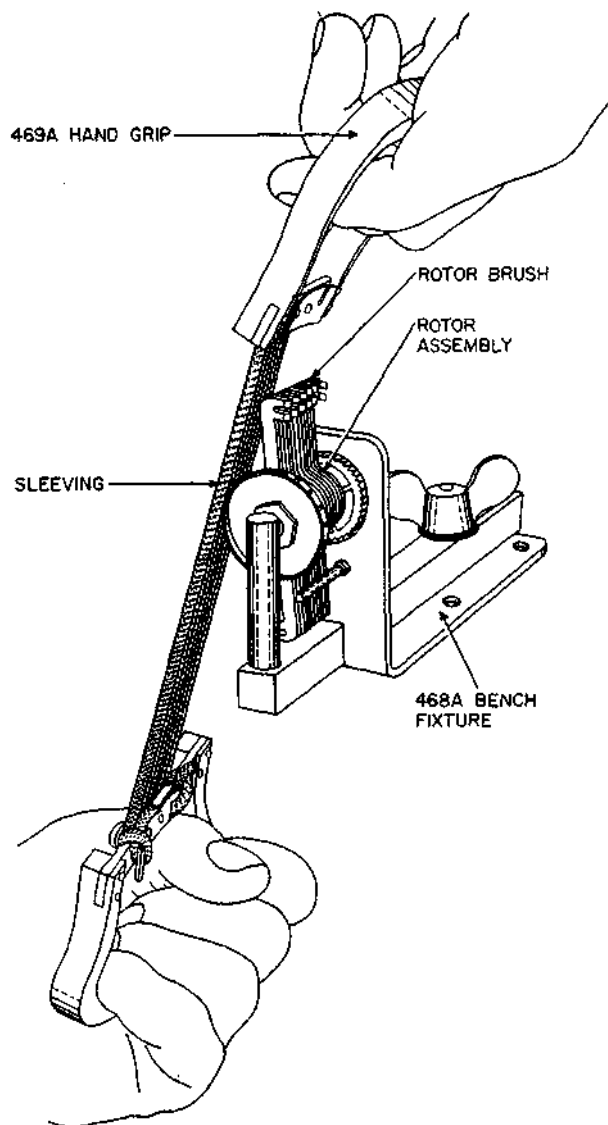

Fig. 10—Method of Inserting Sleevings Between Brushes of Rotor Assembly
3.24 Abrasive Cleaning: Load the 469A hand grips with No. 32 aloxite sleeving. Hold the right hand grip above and to one side of the other hand grip so that the strings are at an angle of approximately 15 degrees to the brushes, as shown in Fig. 10. After entering each string into its proper brush, pass it through the brush tips with a slight downward pressure and a pull to the right. Clean the contact surfaces by forcing the grips alternately up and down.
in Fig. 10. After entering each string into its proper brush, pass it through the brush tips with a slight downward pressure and a pull to the right. Treat the contact surfaces by forcing the grips alternately up and down.